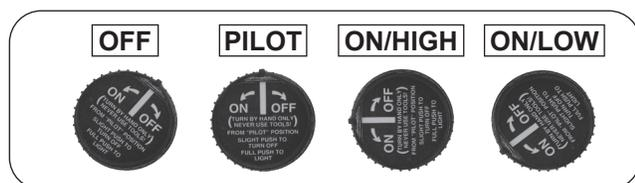

Fig. 25-1 Gas control knob positions
2. Locate the valve on the unit. Push in the gas control knob slightly and turn clockwise ↻ to **OFF** (Fig. 25-1).
4. Push in the control knob slightly and turn counterclockwise ↺ to the **PILOT** position. Push the knob **firmly and fully** in and hold. Push the piezo igniter button several times until the pilot lights. Continue to hold the knob in for about one (1) minute after the pilot is lit. Release the knob and it will pop back out. The pilot will remain lit. See Fig. 25-1 and 25-2. If it goes out, repeat steps 2-4.
1. Ensure the pilot is burning. Push in the control knob slightly and turn counterclockwise ↺ to the **ON/HIGH** position (first stop past PILOT). See Fig. 25-1. The valve will open and the burner will light at maximum BTUs.
To shut down the main burner (pilot will remain lit), push in the control knob slightly and turn clockwise ↻ to the **PILOT** position (see Fig. 25-1).
To shut down the burner and pilot (total shutdown), push in the control knob slightly and turn clockwise ↻ to the **OFF** position (see Fig. 25-1).